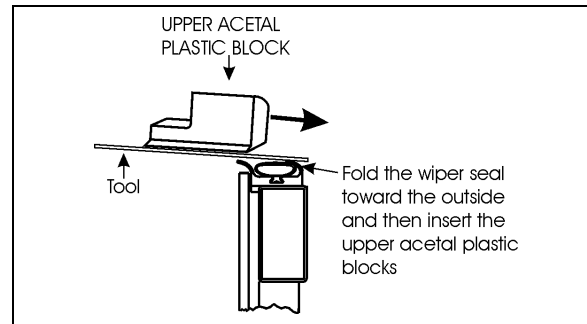

FIGURE 31: LOWER ACETAL PLASTIC BLOCK INSERTION
- Reinstalling the upper acetal plastic blocks. Fold the wiper seal toward the outside with a flat tool to ease installation (Figure 31) and tighten the mounting screws. Leave no gap between the blocks and the rail.